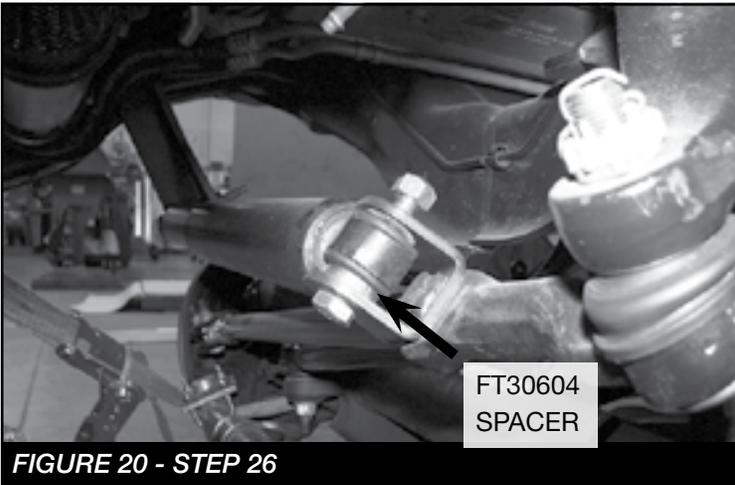

FIGURE 20 - STEP 26
26. Install FT30686 (Stabilizer Clevis) on the factory steering stabilizer using the supplied M12 hardware. **NOTE: Install FT30604 (spacer) like shown in the figure below.** Install the stabilizer using the supplied 1/2" washer and nut to the draglink. Using the factory hardware install the tapered end into the new Fabtech bracket. Torque to 127 ft-lbs. **SEE FIGURE 20**